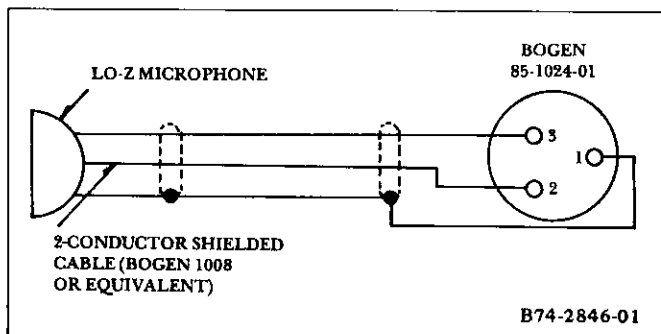

Figure 5B—Connecting Lo-Z Microphone
- 3) Connect microphone as shown in figure 5B.